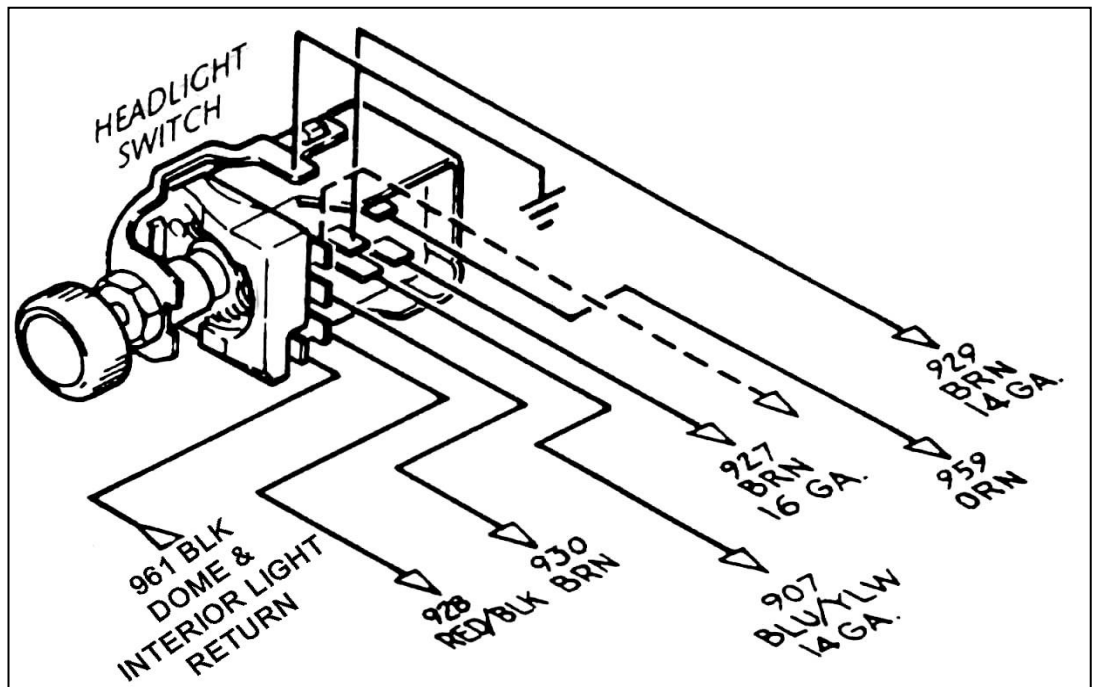

Figure 10-6 HEADLIGHT SECTION B Wiring (Painless Part #80152)
- 10.4.1** Interior Lights are switched through the door switches and the dash-mounted headlight switch, which is usually rotated counter-clockwise to turn on. These switches apply ground to the circuit. YOU WILL NEED TO SUPPLY THESE GROUND WIRES. 12V is continually present at the light bulbs. See **Figure 10-6**.
10.6 HEADLIGHT SECTION B Wiring. See Figure 10-6.
Note: On late-style GM headlight switches, the park lights terminal to which wire #927 (brn) is connected (shown in **Figure 10-6**) has been omitted. In this case, wire #927 must be connected as indicated by the dashed line in **Figure 10-6**.